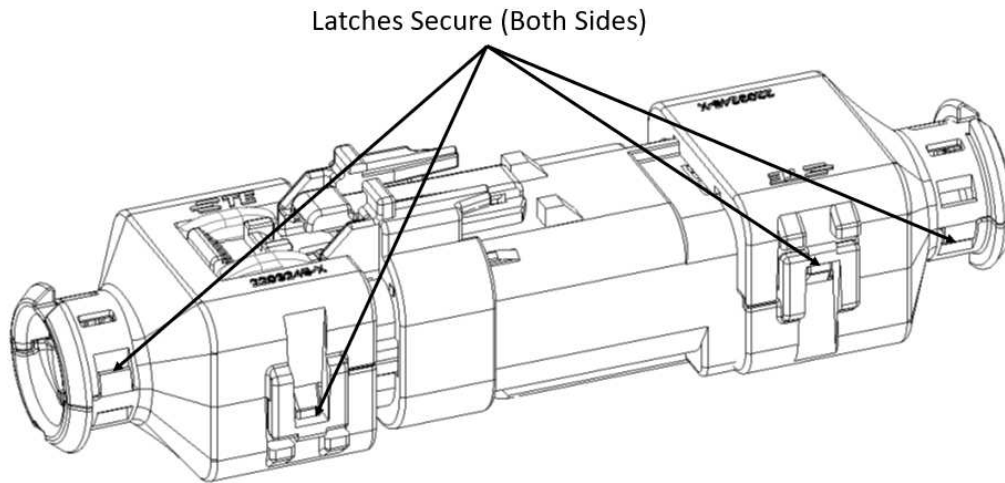

Figure 30
- ii. Push the two halves of the backshell together so that the halves mate around the connector housing; then ensuring that the wire bundle is within the seams of the wire exit, compress the halves together until all the latches are secure. See Figure 30.